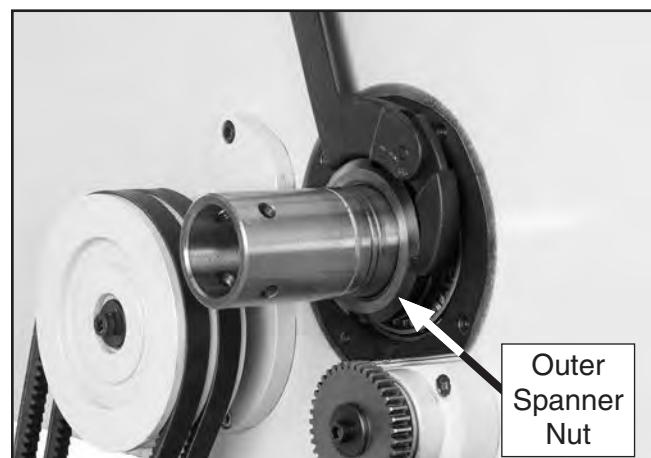

Figure 134. Loosening outer spanner nut.
6. Using a spanner wrench, or hammer and punch, loosen outer spanner nut (see **Figure 134**) counterclockwise and remove it.